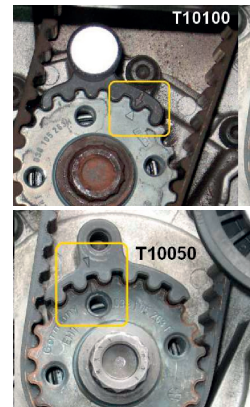

Fig. 4
Component (L) has the mark positioned inline with a bolt hole and is a round sprocket. Fig. 4.